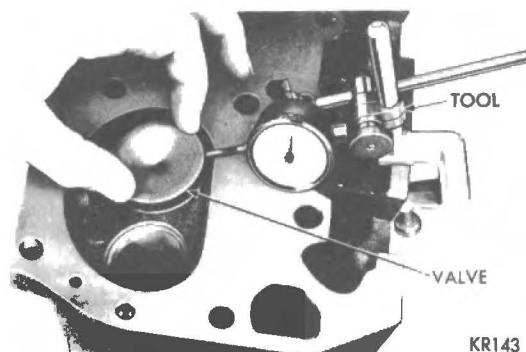

Fig. 5 Measuring Guide Wear Using Tool C-3339 (Typical)
(5) The special sleeve places the valve at the correct height for measuring with a dial indicator. Attach the dial indicator, Tool C-3339 to cylinder head and set it at a right angle to the valve stem being measured (Fig. 5). Move valve to and from the indicator. Total movement should not exceed .016 inch on intake valves and .018 inch on exhaust valves.
(6) If the tolerance is excessive, ream guides and install valve with oversize stems. Reamer Tool CA-3433 will ream guides for .005 inch oversize valve stems. Tool CA-